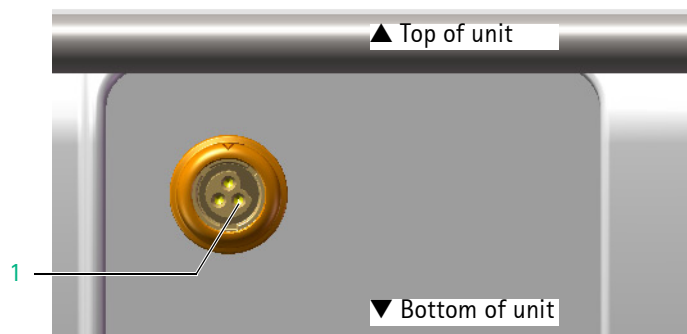

Fig. 7 - 1
1. Measure between mains input and pin 3 (GND) of accessory connector (Fig. 7 - 1 / Item 1).